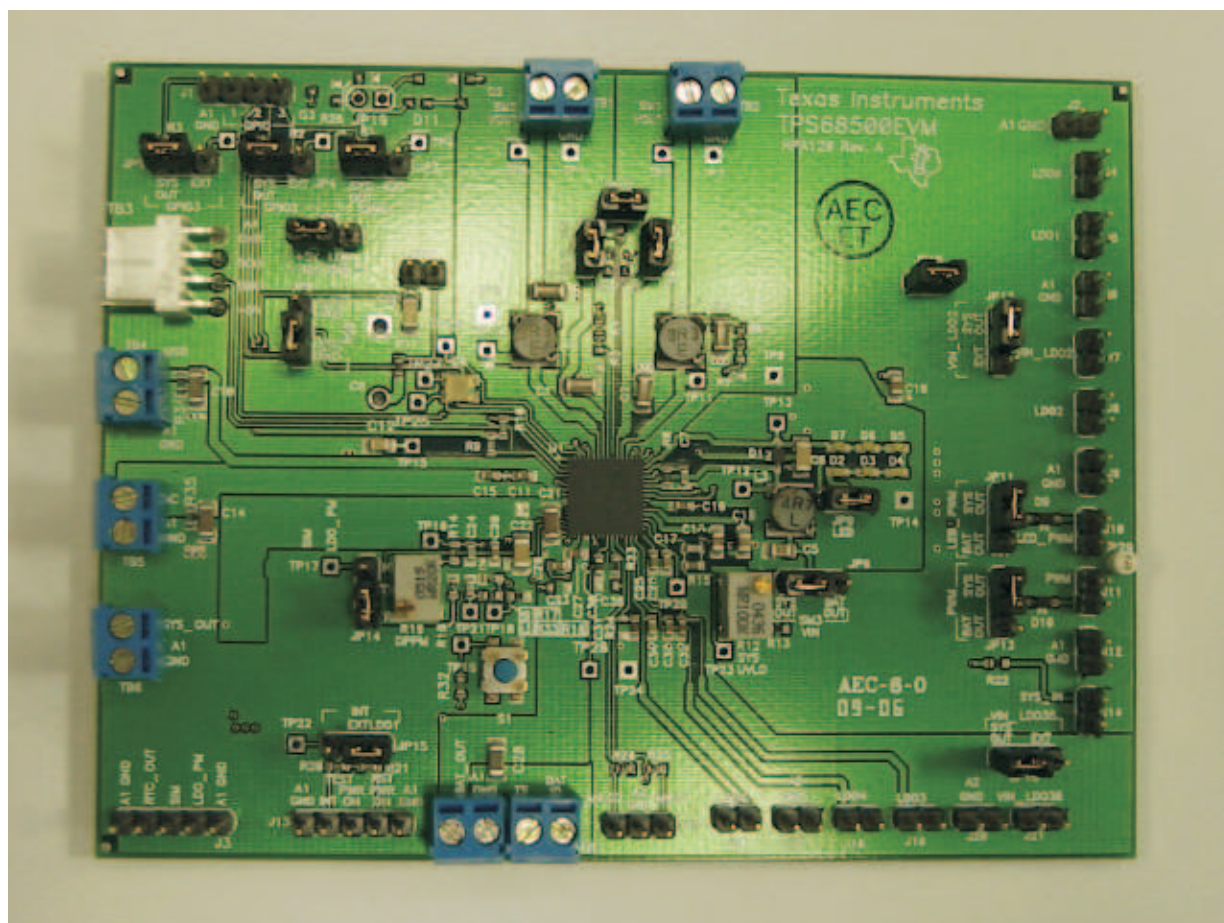

Figure 1. TPS65810EVM Assembly (Similar to Other Versions)
- (a) Verify that the jumpers are in the correct location. JP5/4/3/8/15/12/11/13/6/16 are to be set to SYS-OUT, JP7 to +5V, JP14 to RES, JP15 to LDO1, and JP12/17/18/9; apply jumper across the two pins. See Figure 1.